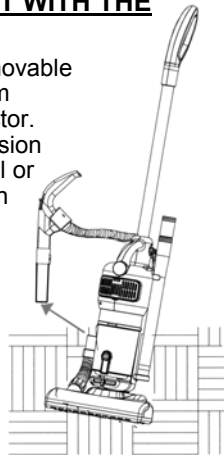

Fig. 8
- Attach the extension tube, crevice tool or the dusting brush to the end of the hose. (Fig. 8)